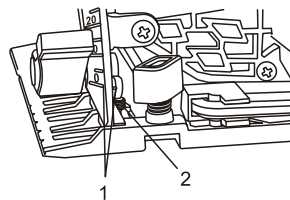

Fig. 6
1. Set the bevel angle to 0° (1) (Fig. 6).
3. If the angle is NOT 90°, use a 2.5 mm hex key and adjust the 0° set screw (2) so the angle is 90° when the 0° stop contacts the set screw.